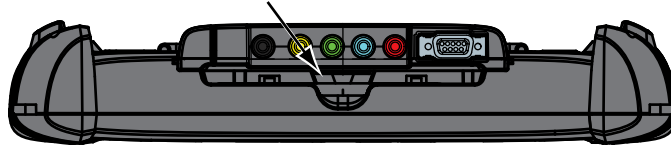

Figure 8-1 *Scope Multimeter release tab*
1. Depress the Scope Multimeter module release tab located on the top of the unit (Figure 8-1).